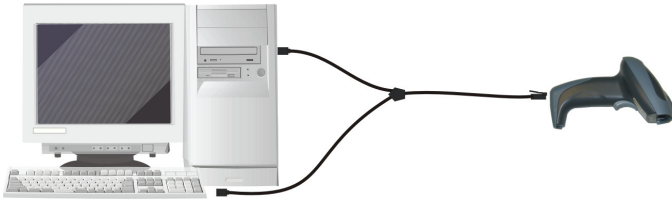

Figure 4 – Wedge Connections
1. Connect the cable to the Gryphon™ D432/D432E reader and to the PC as shown in Figure 4. Power up your PC.